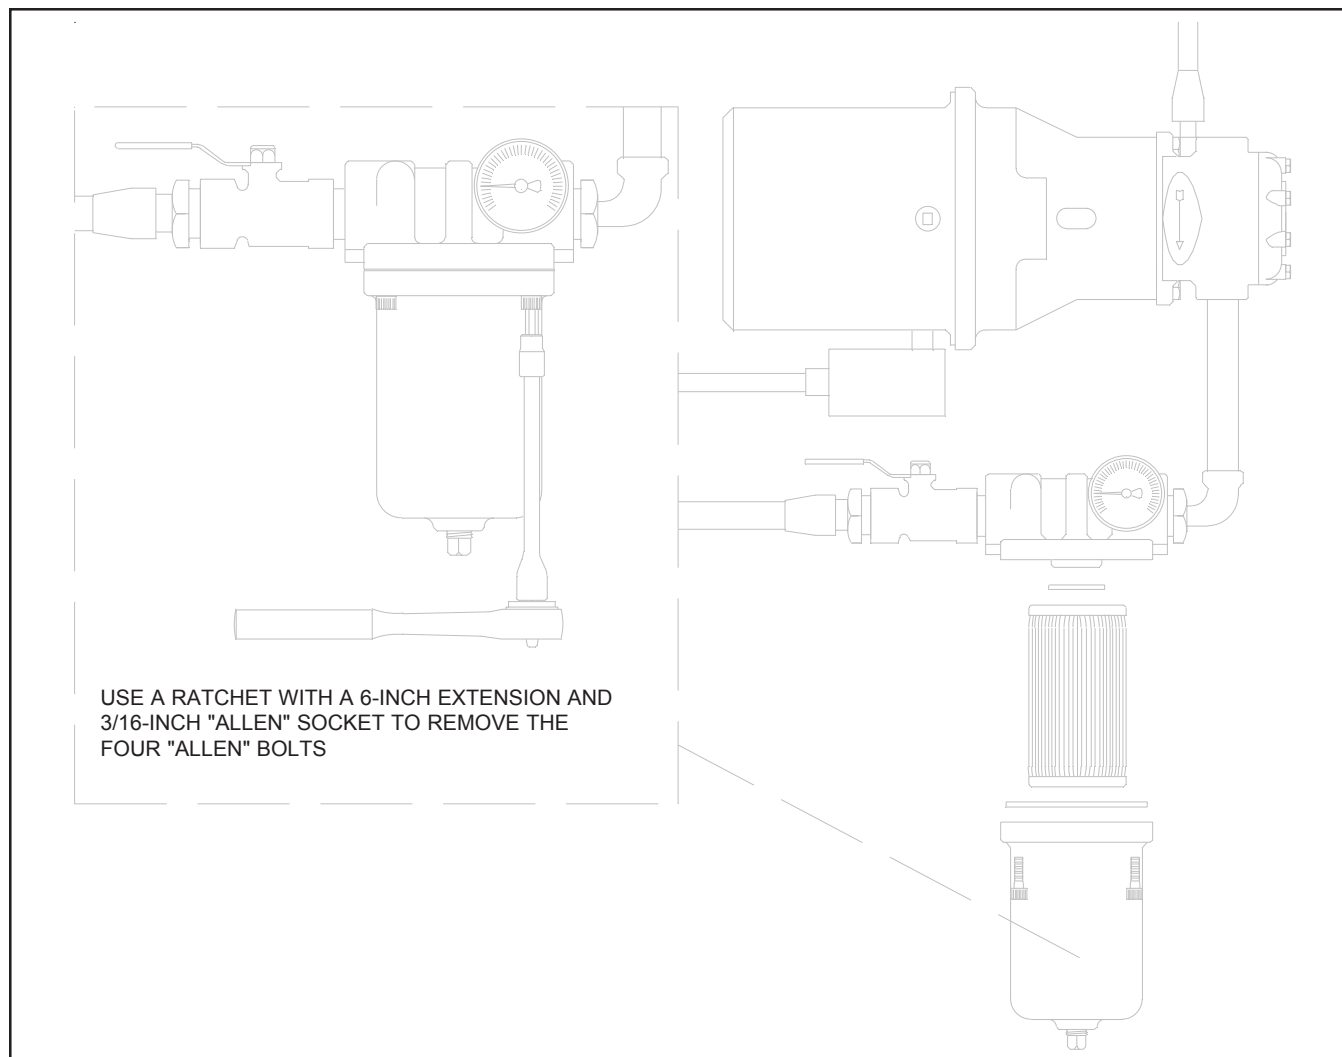

FIGURE 9A - Canister Filter Component Detail
6. Referring to Figure 9A, examine the filter components as you reassemble them.